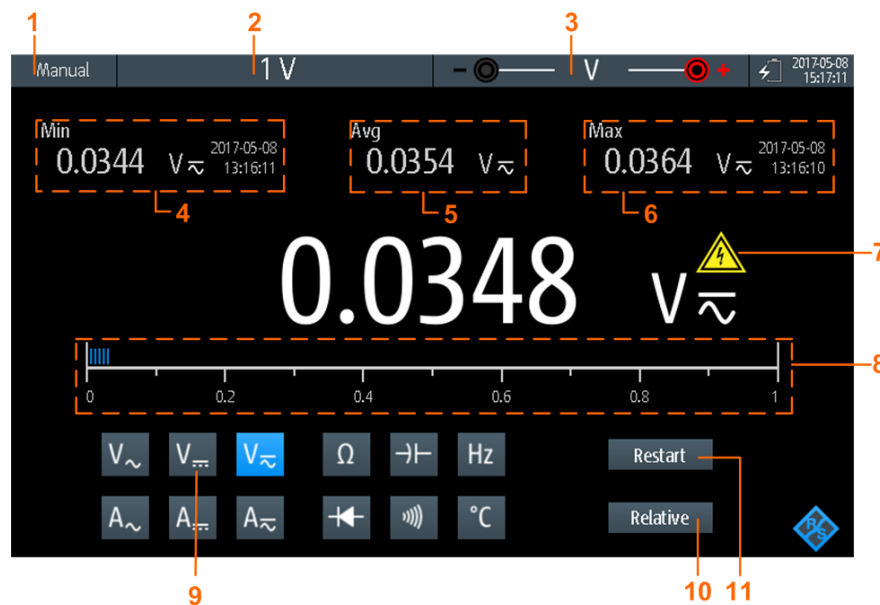

Figure 6-2: Display of the digital multimeter
3. Select the measurement type (no. 9 in Figure 6-2).